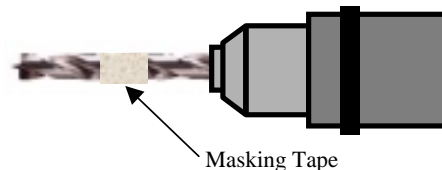

FIGURE 3
1. Clamp the wood block with the back facing upwards. Mark the rear hole depth on the 25/64 inch drill bit (see table above) with masking tape (see Figure 3). *Measure the distance from the outside tips of the bit, not from the center tip.*
3. Clamp the wood block with the top facing upwards. Mark a depth of 1/8 inch on the 3/32 inch drill bit with masking tape (see Figure 3 on page 5).